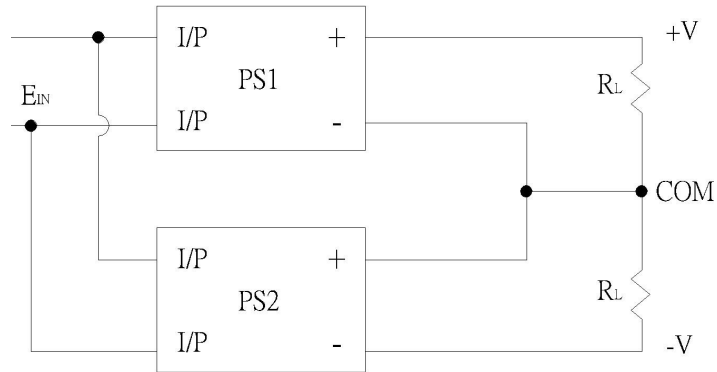

Fig. 6-10 Direct Positive / Negative voltage connection
1. Positive/ negative voltage connection shown as Fig. 6-10.